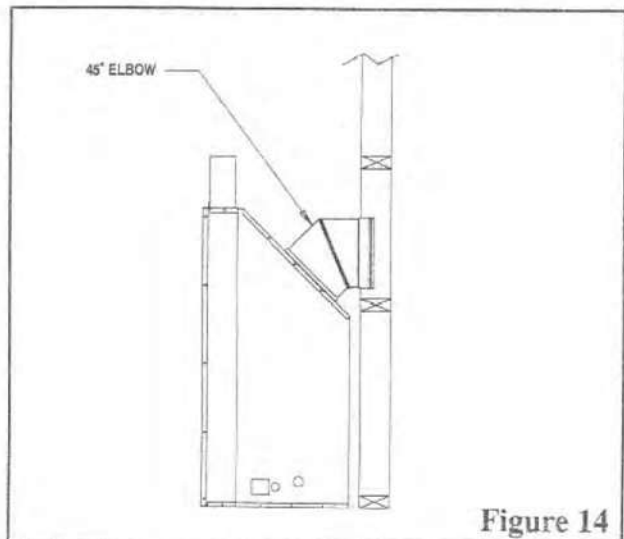

Figure 14
- 1.) Snap lock the 45° elbow onto the fireplace to the position shown in Figure 14.